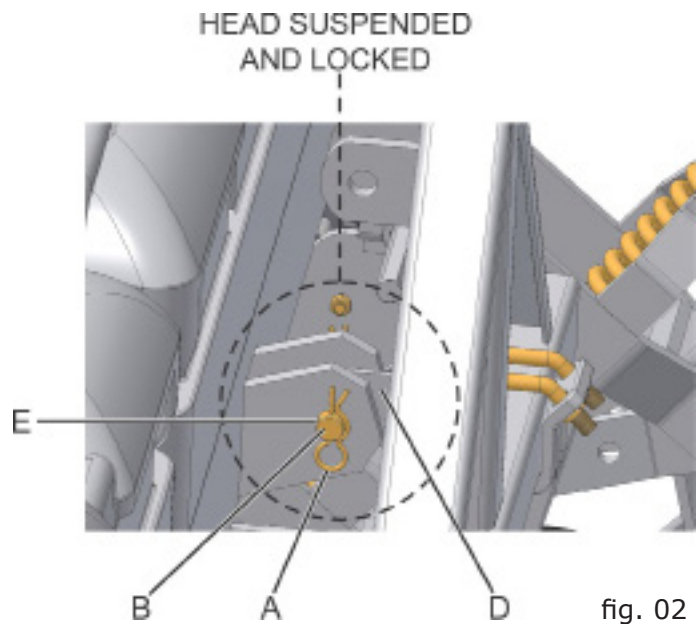

fig. 02
Suspend the head and insert the pins (B) (fig. 02) in the holes (D) and (E), locking them with locking pins "R" (A).